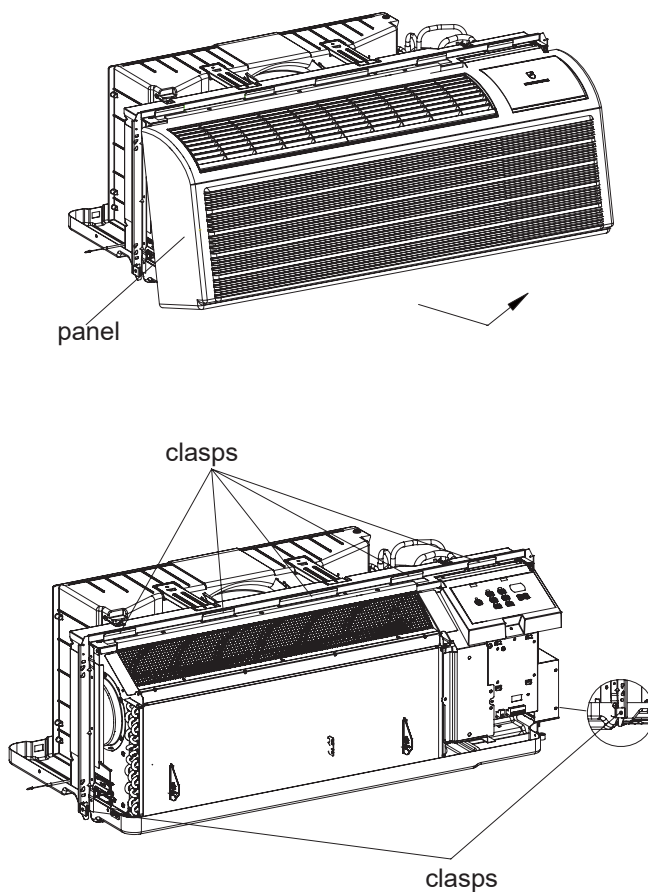

Figure 502
2. Drag the lower part of panel, pull it outwards and upwards to left, separate from clasps, and then remove the front panel. See Figure 502.